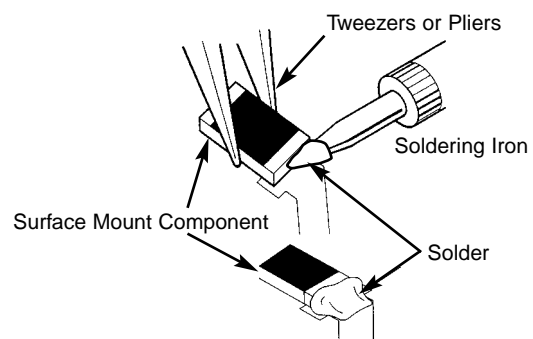

Figure 7B
1. Apply a small amount of solder to the soldering iron tip as shown in Figure 7B.